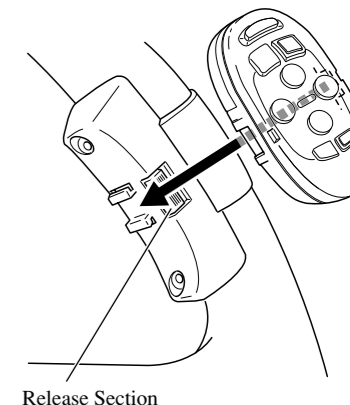

Fig. 17
4. Install the remote control unit in the holder. (Fig. 17)